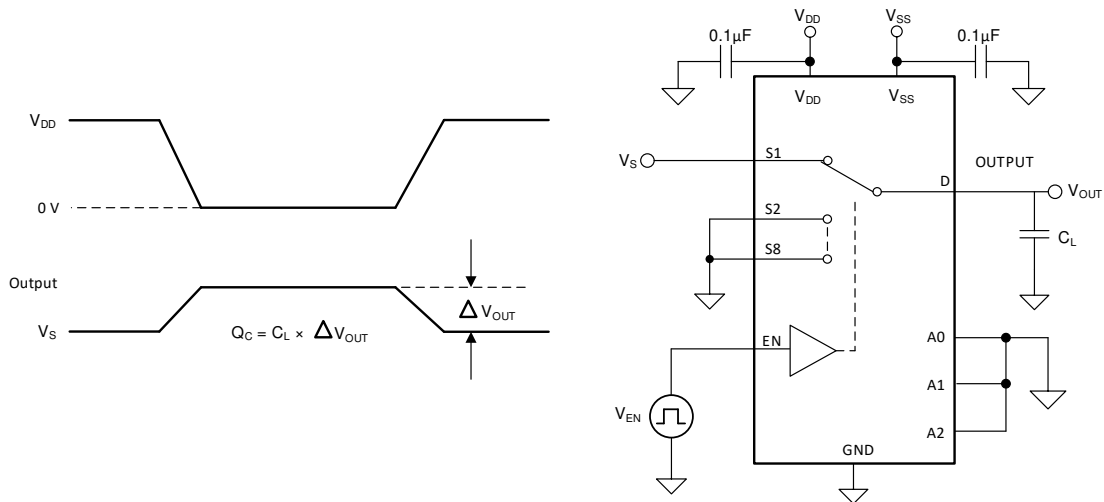

图 7-7. Charge-Injection Measurement Setup
The TMUX1108 has a transmission-gate topology. Any mismatch in capacitance between the NMOS and PMOS transistors results in a charge injected into the drain or source during the falling or rising edge of the gate signal. The amount of charge injected into the source or drain of the device is known as charge injection, and is denoted by the symbol  $Q_C$ . 图 7-7 shows the setup used to measure charge injection from source ( $S_x$ ) to drain (D).